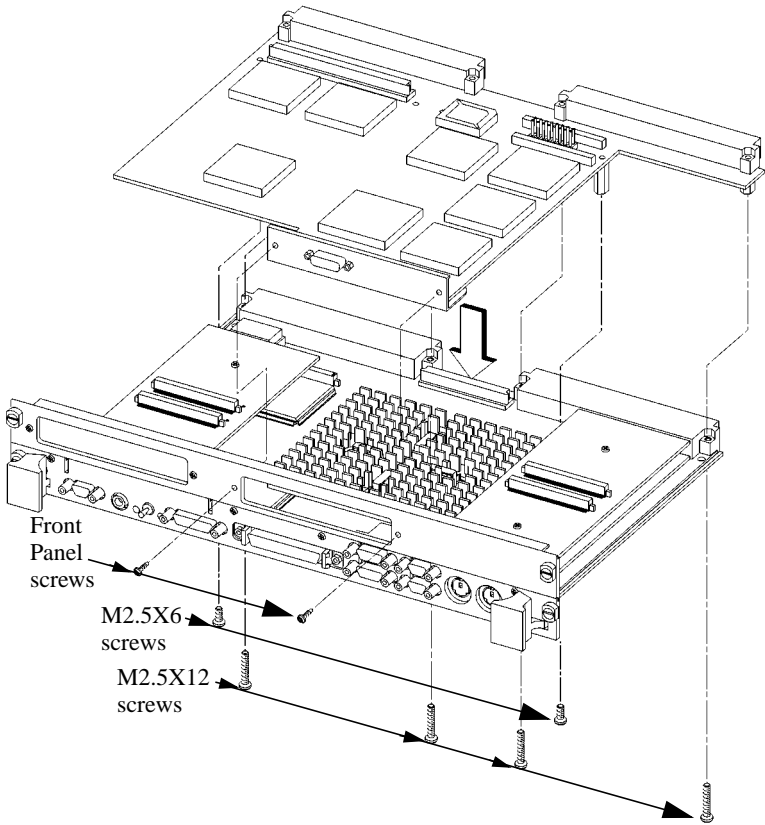

Figure 5-12 HCRX Board Fasteners
- 1 Remove the two M2.5X6 screws from the bottom of the system board as shown in Figure 5-12.